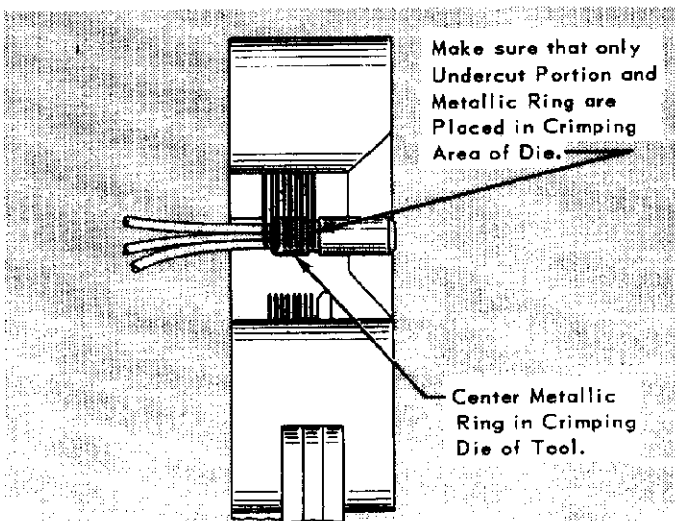
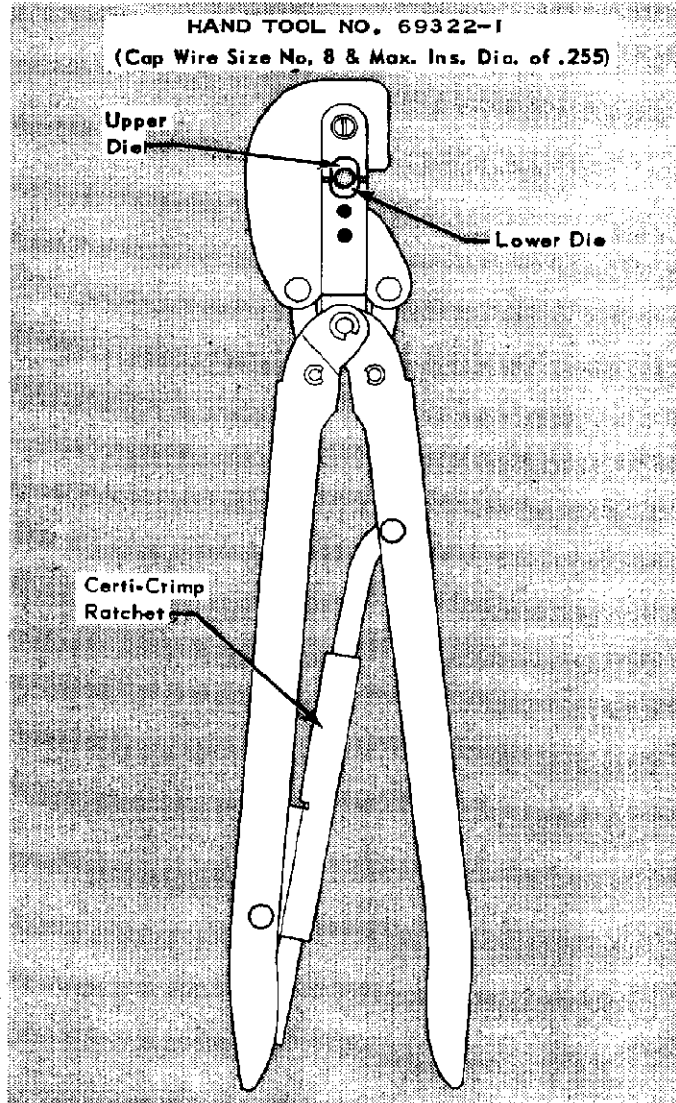

Fig. 6
Fig. 9
- (h) Place Metallic Ring in Insulation Crimping Nest as shown in Figure 6.
NOTE: Use Tool No. 69322-1, shown in Figure 9, to crimp Cap containing Splice having a maximum Insulation Diameter of .255. Place Cap in Tool as shown in Figure 6.